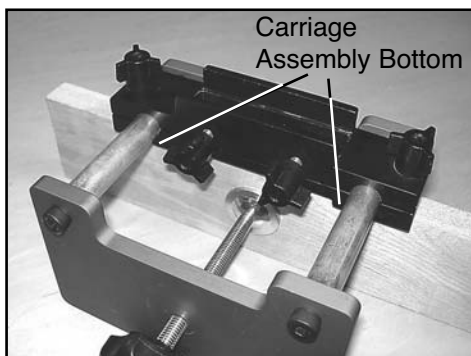
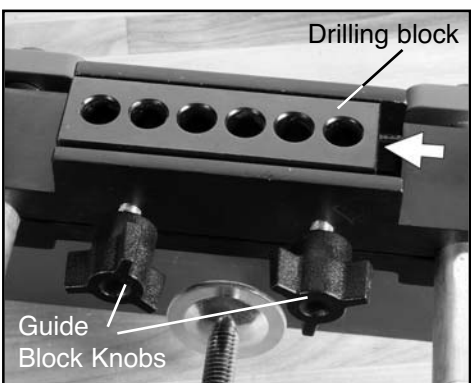

Fig. 3
Fig. 4
3. Jig alignment: Clamp a straight scrap board into jig, making sure board has contact with both sides of the carriage assembly bottom. (Fig. 3) Install drill block in carriage assembly so block rests on scrap board. Shift block to far left and lock in place with guide block knobs. (Fig. 4)